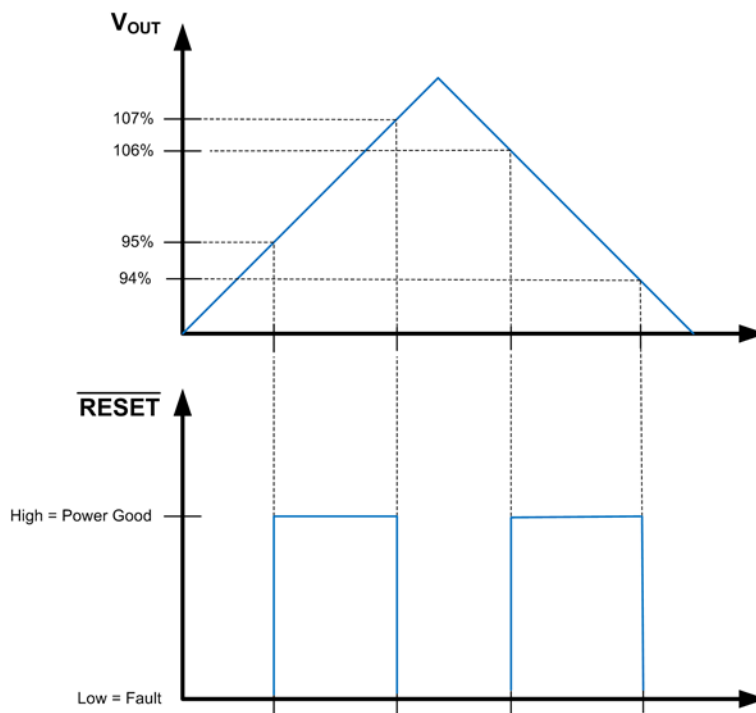
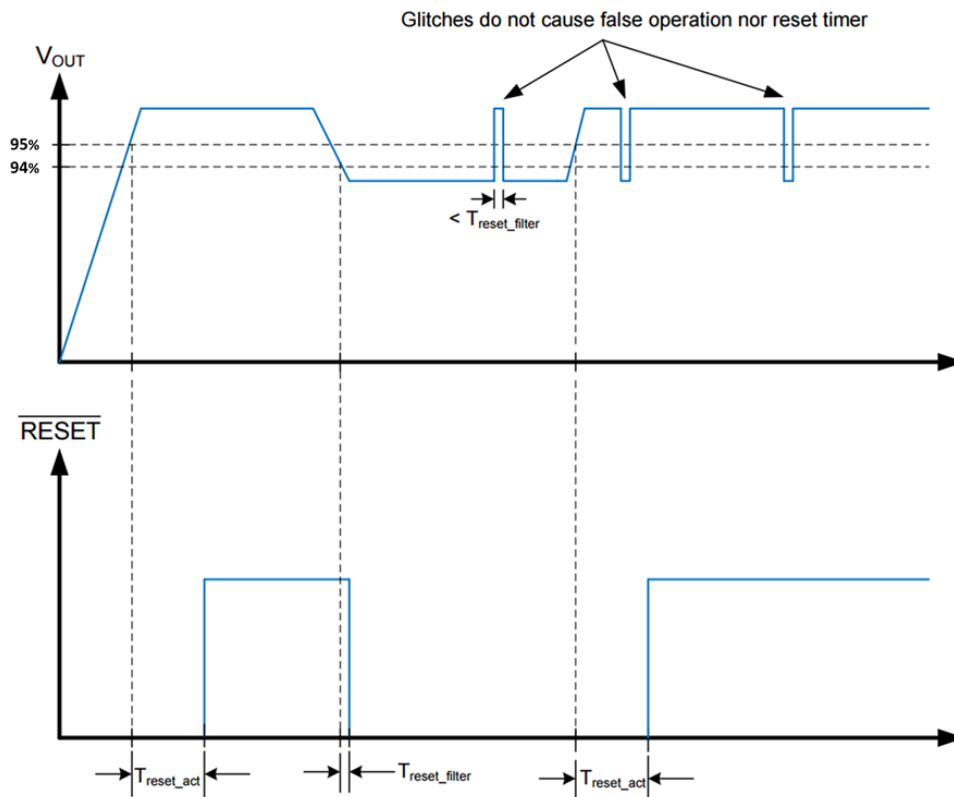
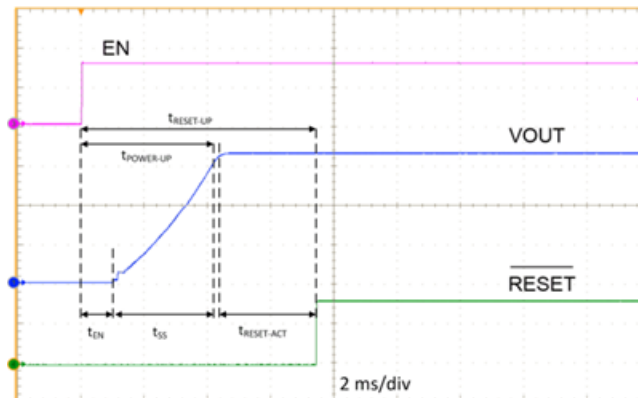

Figure 10. Static $\overline{\text{RESET}}$ Operation
Figure 11. $\overline{\text{RESET}}$ Timing Behavior
Figure 12. Typical Start-up Waveform
The $\overline{\text{RESET}}$ function, built into the LM53625/35-Q1, has special features not found in the ordinary Power-Good function. A glitch filter prevents false flag operation for short excursions in the output voltage, such as during line and load transients. Furthermore, there is a delay between the point at which the output voltage is within specified limits and the flag asserts Power Good. Because the $\overline{\text{RESET}}$ comparator and the regulation loop share the same reference, the thresholds track with the output voltage. This allows the LM53625/35-Q1 to be specified with a 96.5% maximum threshold, while at the same time specifying a 94 % worst case threshold with respect to the actual output voltage for that device. This allows tighter tolerance than is possible with an external supervisor device. The net result is a more accurate Power-Good function while expanding the system allowance for transients, and so forth. $\overline{\text{RESET}}$ operation can best be understood by reference to Figure 10 and Figure 11. The values for the various filter and delay times can be found in Timing Characteristics. Output voltage excursions lasting less than $T_{\overline{\text{RESET}}-\text{filter}}$ do not trip $\overline{\text{RESET}}$. Once the output voltage is within the prescribed limits, a delay of $T_{\overline{\text{RESET}}-\text{act}}$ is imposed before $\overline{\text{RESET}}$ goes high.
- A delay has been added for release of reset. See Figure 11 and Figure 12 for more detail.
Start-up and shutdown of the LM53625/35-Q1 are controlled by the EN input. Applying a voltage of ≥ 2 V activates the device, while a voltage of ≤ 0.8 V is required to shut it down. The EN input may also be connected directly to the input voltage supply. This input must not be left floating. The LM53625/35-Q1 utilizes a reference-based soft start that prevents output voltage overshoots and large inrush currents as the regulator is starting up. A typical start-up waveform is shown in Figure 12 along with timing definitions.
The waveforms shown in Figure 12 indicate the sequence and timing between the enable input and the output voltage and $\overline{\text{RESET}}$. From the figure we can define several different start-up times depending on what is relevant to the application. Table 3 lists some definitions and typical values for the timings.